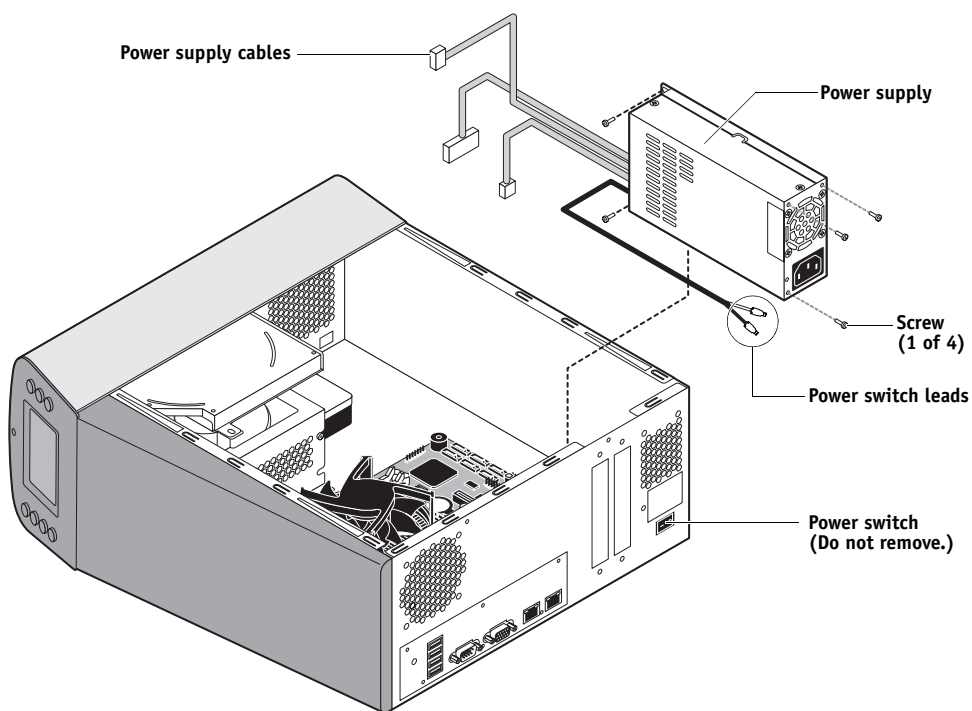

FIGURE 24: Removing/replacing the power supply
- 8 Remove the four screws that attach the power supply to the chassis (see Figure 24 on page 52).
2 Place the power supply inside the chassis and align the mounting holes.**3 Attach the power supply to the chassis with the four screws that you removed earlier (see Figure 24 on page 52).**